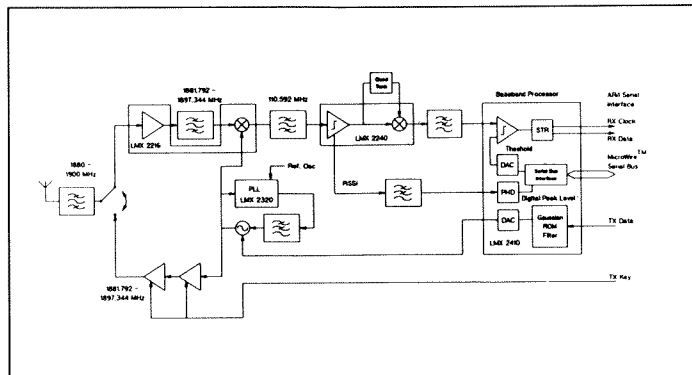

Figure 3 - Block diagram of National Semiconductor's single conversion receiver architecture.
For DECT, National Semiconductor chose a single conversion receiver, direct modulation transmitter architecture. This is shown in Figure 3. There are several key features that make this architecture possible. The signal is received at the antenna and filtered with a low loss (typ. 1 dB) antenna filter. The filter is used on the receive side to reduce possible out-of-band interfering signals. On the transmit side the filter is used to attenuate harmonics of the transmitted signal and to reduce possible wide band noise.
The signal then passes the duplexer which can either be a fast switch or circulator. The insertion loss in the duplexer should not exceed 1 dB. From the duplexer the signal enters a low noise amplifier, image reject filter and mixer structure. National Semiconductor provides various IC solutions for receiver front ends, which combine the low noise amplifier (LNA) and mixer circuit. One of them is the LMX2216 shown in Figure 3.
Two ways to do FM demodulation are: (1) the limiter/discriminator structure as shown in Figure 3; and (2) PLL tracking of the instantaneous frequency deviation. By first limiting the signal in a high gain amplifier, then mixing the signal